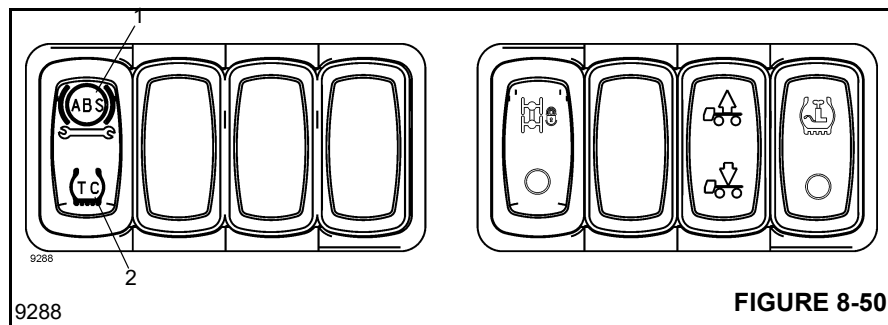

FIGURE 8-50
If the indicator (1) (Figure 8-50) stays on, there is a problem with the ABS. If the ABS indicator lights during driving, the ABS self test has detected a fault in the system. The vehicle can still be driven with a problem in the ABS. However, the ABS will not be operating and standard air braking is in effect.
The ATC indicator (2) (Figure 8-50) is the primary indicator of the ATC status. The ATC indicator: